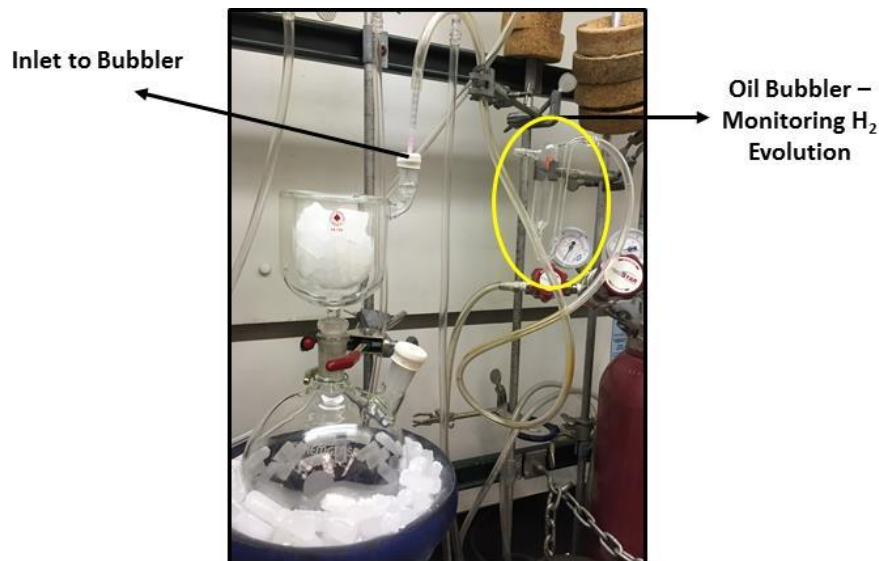

Figure 3: Monitoring of H_2 Evolution Using Oil Bubbler
4. The addition of the WR takes approximately 30 minutes. The rubber septum can be removed for short periods of time so the WR can be added into the side neck. Addition of WR generates hydrogen gas which needs to escape the vessel. Insert a vent needle on the septum of the side neck. When the WR contacts $\text{NH}_3(\text{l})$, a brief hissing sound occurs as hydrogen gas is generated, and the solution turns dark blue. Pieces of WR must be added between 30–60 second intervals. As more WR is added, some splashing within the flask occurs, and the inside of the entire flask eventually becomes coated with a thin layer of WR. After all WR has been added, replaced the nitrogen gas inlet with a balloon or a gas bubbler to monitor hydrogen gas evolution (Figure 3).